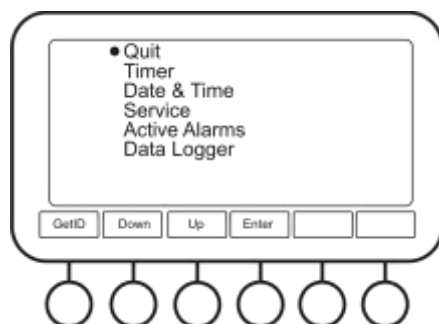

Figure 2. Menu
- 5.9 **Incubator menu** (fig. 2). **Menu** button opens incubator's menu. Use **Down** and **Up** buttons to navigate and **Enter** button to select. While browsing in the menu, select the topmost **Quit** option in order to return to the previous level. Option **GetID** shows the serial ID and name of the incubator.